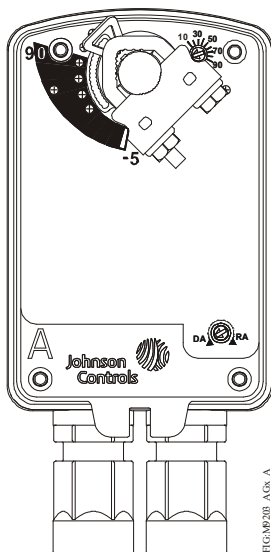
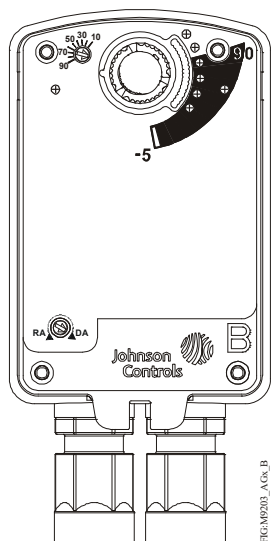

Figure 2: Actuator Side A
Figure 3: Actuator Side B
For CCW spring return direction, mount the actuator to the damper shaft so that Side A of the actuator is away from the damper as illustrated in Figure 2. With power applied, the actuator drives CW from the 0° position and spring returns CCW.
For CW spring return direction, mount the actuator to the damper shaft so that Side B of the actuator is away from the damper as illustrated in Figure 3. With power applied, the actuator drives CCW from the 0° position and spring returns CW.
The M9203-xxB-2(Z) models include one integral auxiliary switch with a switch adjuster accessible on either face of the actuator (see Figure 2 and Figure 3). The factory setting for the Auxiliary Switch is 11° closing (relative to the 0 to 90° rotation range as printed on the product label). See the Technical Specifications table for the auxiliary switch ratings.